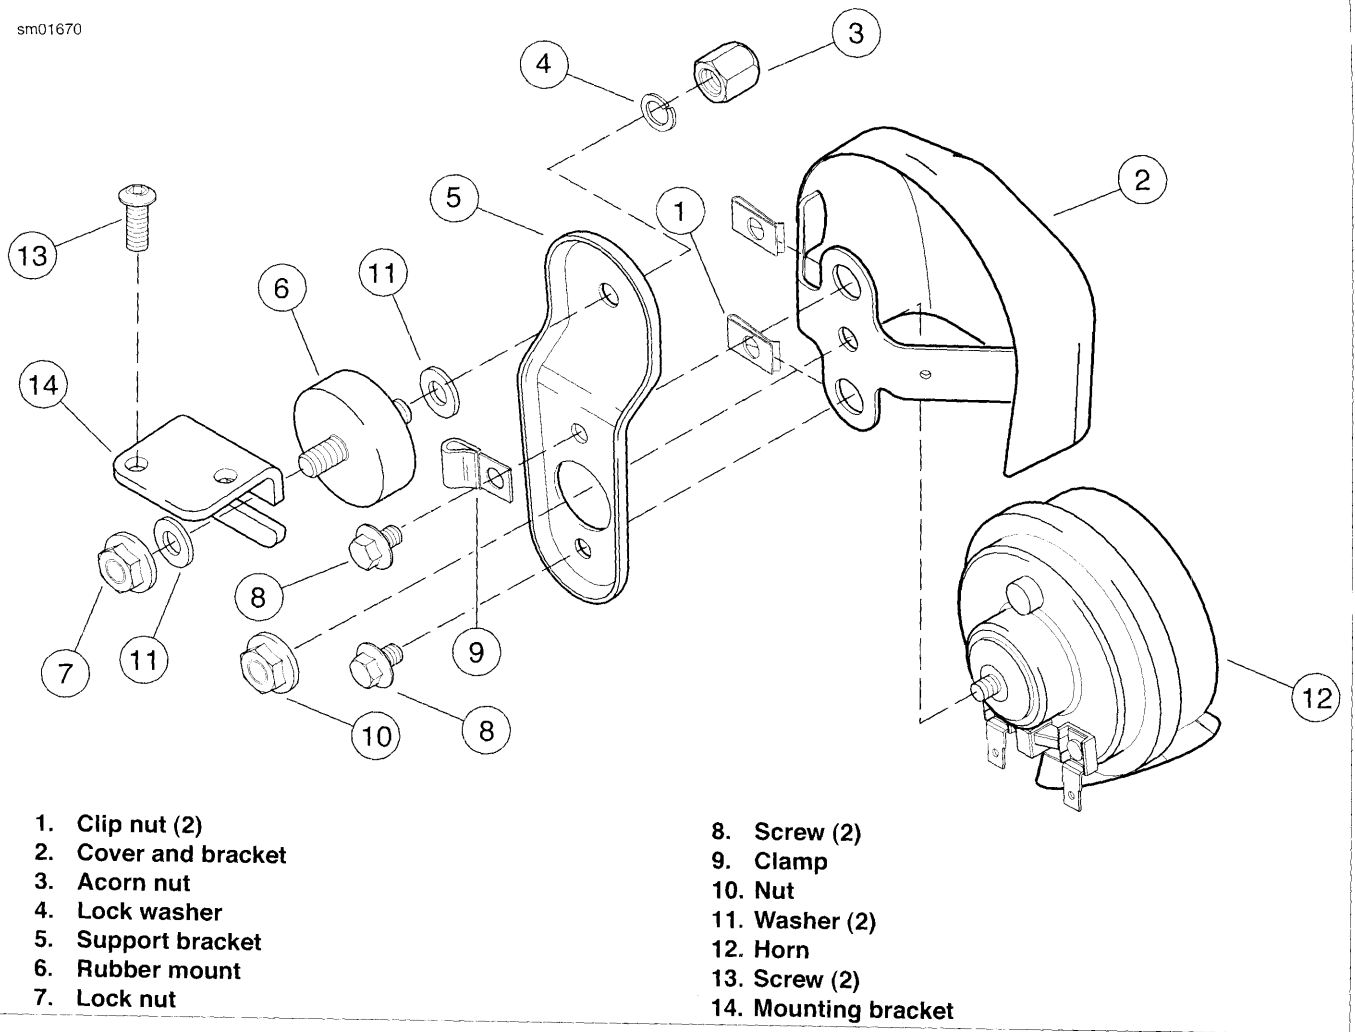

Figure 6-123. Horn Components (Models with Side Mounted Horn)
1. See Figure 6-123. Remove terminal clips from horn spade connections on back of horn (12).
2. Remove acorn nut (3) and lock washer (4) to free horn assembly from rubber mount (6) stud.
3. Remove wire conduit from clamp (9) at back of support bracket (5).
4. Remove nut (10) from circular recess at back of chrome cover and bracket (2) and remove horn (12) from cover and bracket.
5. Slide horn (12) into chrome cover and bracket (2) pushing stud at back of horn assembly through hole in horn support bracket (5). Apply two drops of LOCTITE THREAD-LOCKER 272 (red) to threads of nut (10). Install nut (10) on horn stud and tighten to 80-100 **in-lbs** (9.0-11.3 Nm).
6. Attach the yellow wire with black tracer to front terminal and the black wire to rear terminal. Push wire conduit into clamp (9) at back of horn bracket (5).
7. Install support bracket (5) on rubber mount (6) stud with lock washer (4) and acorn nut (3). Tighten acorn nut (3) to 60-180 **in-lbs** (6.8-20.4 Nm).